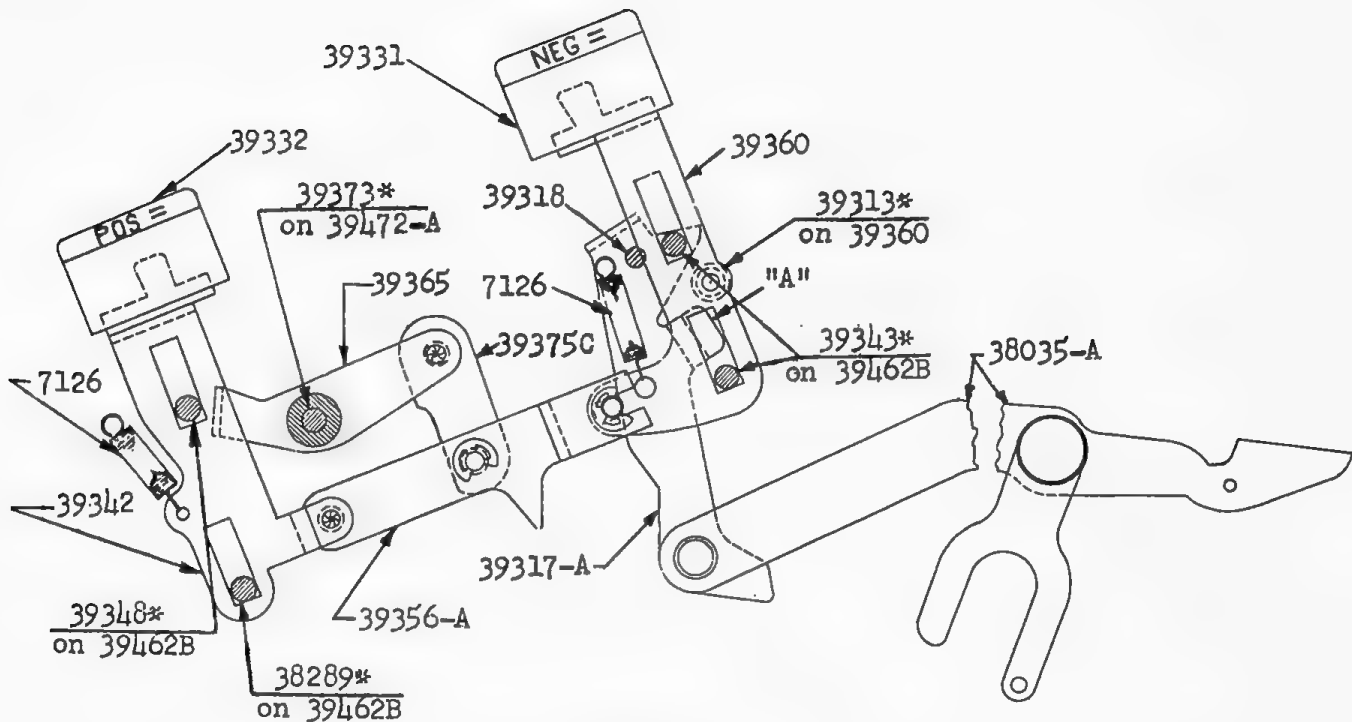

FIG. 59
1. (Fig. 59). The Negative Equals Key performs exactly the same functions as the Positive Equals Key except that the answer is